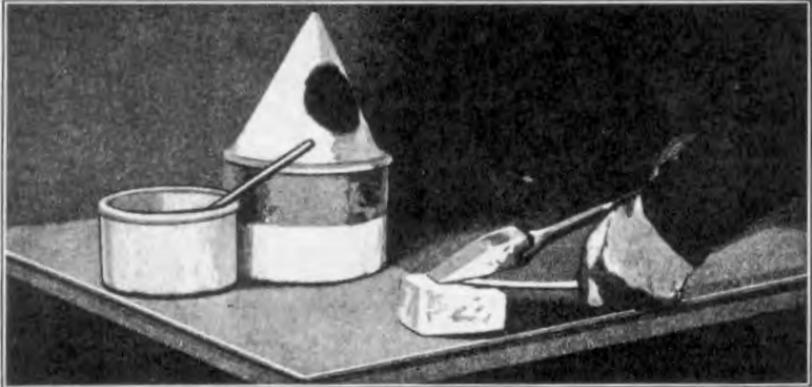

Fig. 398
**792** After the iron has been dressed in this manner, it is necessary to "tin" it. This is done by heating the iron, dipping it into acid and rubbing it on a piece of sal ammoniac, at the same time touching a bar of solder to the iron (See Fig. 398). The iron should be turned
- 795 The acid used at the plant is commercial muriatic cut with zinc. By cut, we mean that zinc is placed in the acid, and left in it until the action (boiling) stops. This acid is used both in cleaning the surface and as a flux in soldering. Do not attempt to keep acid in a metal container. Keep it in a glass bottle or stone crock. A cone-shaped metal top with a hole in it set over the crock will prevent the acid or sal ammoniac solution from flying out when the iron is dipped into it and at the same time protect the operator's eyes and clothes. (See Fig. 398.)